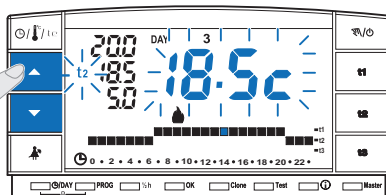

fig. 21
- Modify the selected temperature within 8 seconds with the ▲▼ keys. The value changes by 0.5°C every time the key is pressed (fig. 21).